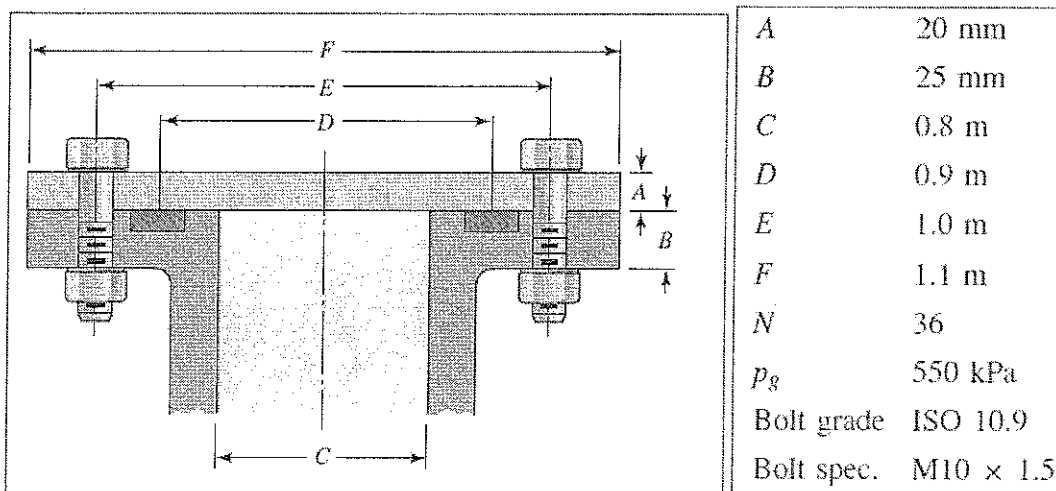

Fig.Q2
- The upside-down steel A frame shown in fig. Q2 is to be bolted to steel beams on the ceiling of a Fig.Q2 illustrates the connection of a steel cylinder head to a grade 30 cast-iron pressure vessel using  $N$  bolts. A confined gasket seal has an effective sealing diameter  $D$ . The cylinder stores gas at a maximum pressure  $p_g$ . For the specifications given in Fig.Q2, select a suitable bolt length from the preferred sizes. Determine the yielding factor of safety  $n_p$ , the load factor  $n_L$ , and the joint separation factor  $n_0$ . [5 M]
2. A beam is to be supported and loaded as shown in Fig. Q2. Find the diameter of the beam using *singularity function* and appropriate failure theory/theories, if the beam is a ductile material with  $S_y = 300$  MPa. Stock verification report shows that 18 mm, 20 mm, 22 mm and 25 mm diameter beams are available in inventory. As a Design Engineer, what decision would you take regarding the diameter? Why? Take:  $a = 0.4$  m;  $b = 0.6$  m;  $l = 1.0$  m;  $w = 200$  N/m;  $F = 500$  N;  $2.3 \leq n \leq 3.3$ . [8 M]